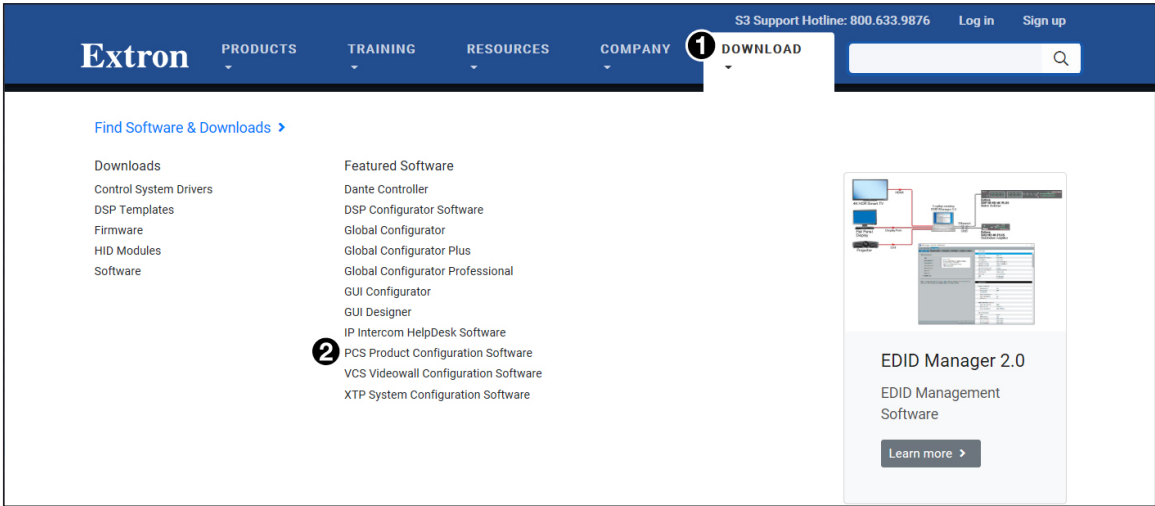

Figure 22. Software Links on the Download Page of the Extron Website
- 1. Open the Extron website and mouse over the **Download** tab (see figure 22, ❶).
- 2. Click the **PCS Product Configuration Software** link (❷).